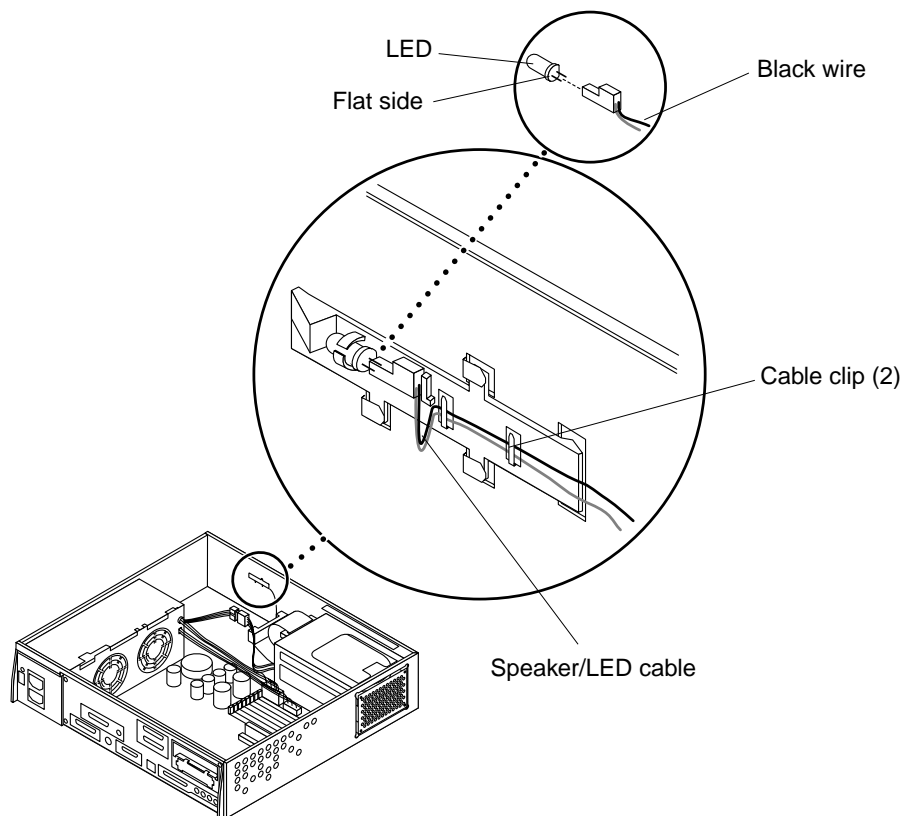

FIGURE 8-24 Removing/Replacing the Speaker/LED Cable
- 6. Slide the LED from the cavity and remove the speaker/LED cable from the two cable clips (FIGURE 8-24).**
4. **Route the speaker/LED cable through the cable clips and insert the LED into the cavity (FIGURE 8-24).**